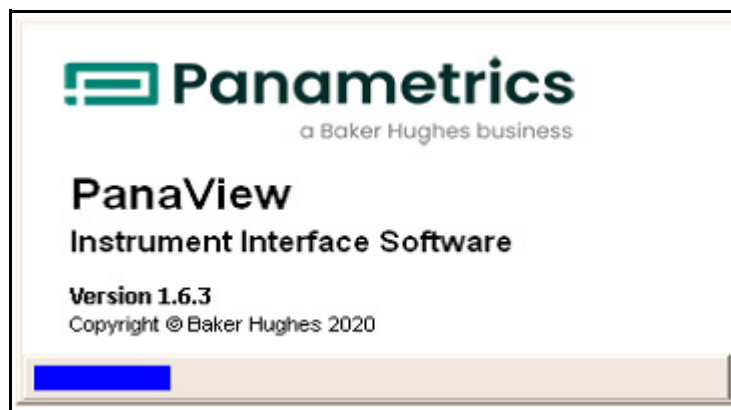

Figure 11: Initializing Screen
1. The *Version number* of your PanaView software, which may not be the same as the example in *Figure 11* below, is shown in the initial screen.